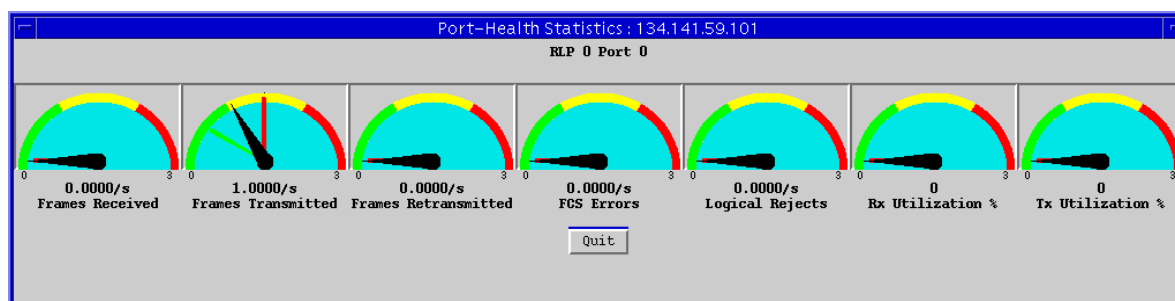

Figure 2-13. The Port Health Statistics Window
2. Drag down to **Health**, and release. The Port Health Statistics window, Figure 2-13, will appear.